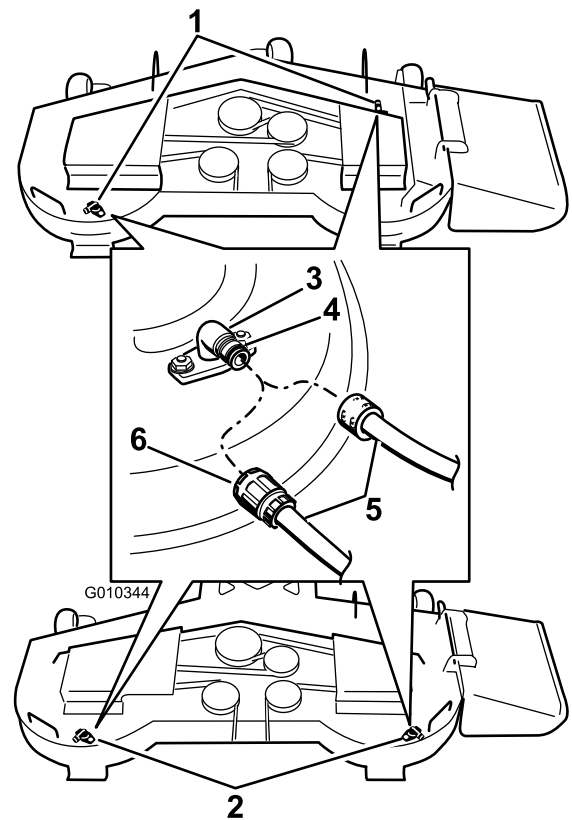

Figure 78
3. Attach the hose coupling to the end of the mower washout fitting, and turn the water on high (Figure 78).